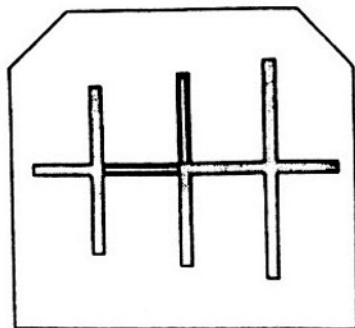

Figure 4-25. Rangefinder Image at 10-meters.
- (3) Place the index of the distance setting gauge opposite the 10-meter mark and view the 10-meter graticule through the telescope. The rangefinder image should coincide with the graticule as illustrated in figure 4-25.